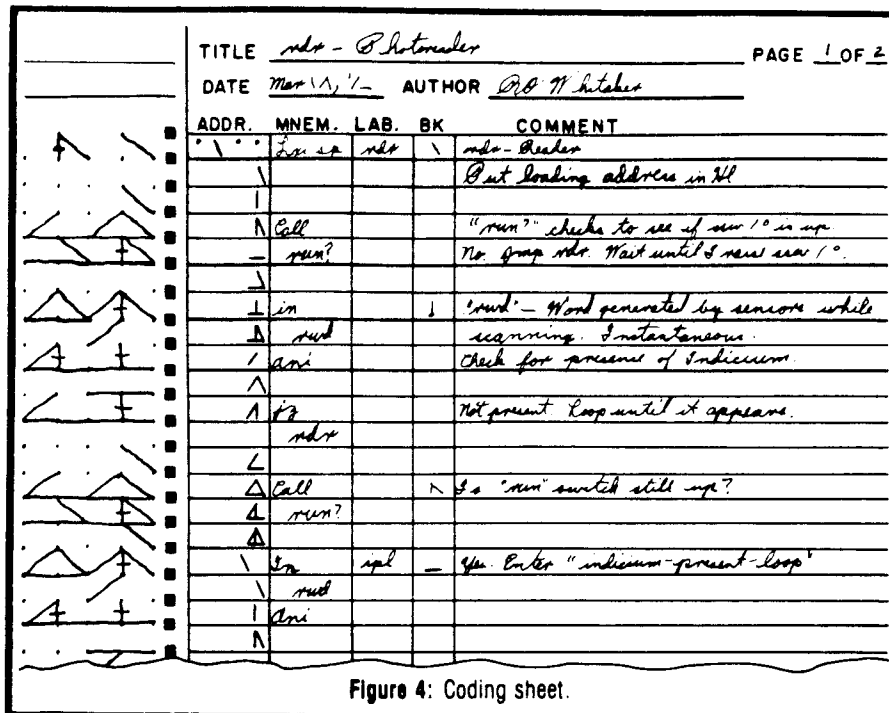
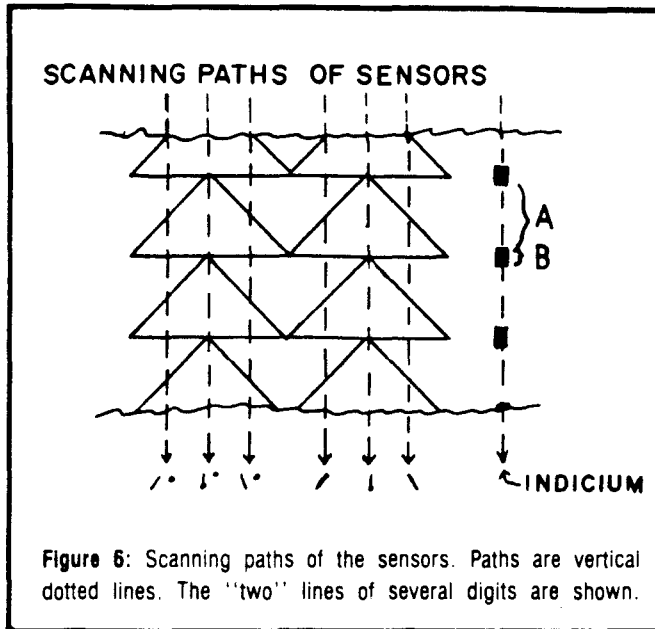

Figure 4: Coding sheet.
Figure 6: Scanning paths of the sensors. Paths are vertical dotted lines. The "two" lines of several digits are shown.
Figure 4 is a coding sheet with the code column on the left. The CCDs are formed by connecting the appropriate dots with a dull #2 pencil.
The fiber optic sensors scan along the dotted lines of Figure 6. Note that the ID (indicia) sensor senses the presence of indicia in the column at the right. The action is as follows:
2. While the ID sensor is in the "A" region of Figure 6, the other six sensors look for their respective lines. Each one
The "2-lines" were not included in Figure 6, but appear in Figure 4. Note that each 2-line bears a crossbar, which causes the 2-sensor to see the line even if the paper is off a millimeter or so in horizontal registry or if I was too sloppy in writing it.
- 7, 8, and 9. Checks to see if the SSW 80 is still up. Yes. Brings in the "Read Word" (RWD) sensed by the reader at any particular instant and dependent upon where the scanner happens to be in relation to the digit pair. Merges it into B. Repeats Steps six through nine until the ID sensor senses the presence of the second indicium. Note from Figure 6 that this loop will operate for region A. It will cause the 1, 2, 8, 10, 20, and 80 lines to be read. For each line present, it will cause its respective bit in register B to be set. Note from Figure 6 that a 1 or 8 line can hardly be mistaken for a 2-line.
- 11, 12, and 13. This is the B loop. The computer stays here as long as the ID sensor sees the second indicium—as long as the sensors are in region B of Figure 6. The 80 and 8 sensors look for the 40-line and the 4-line respectively. The other sensors do nothing. If the 80-sensor sees the 40-line,
To aid in zeroing the system, I put two horizontal lines across the top of the code column (see Figure 4). The first is so thin that the sensors do not trip on it. The second is just barely dark enough to trip the sensors. The pots were then adjusted so that their respective LEDs did not light for the first line and did light for the second. The only requirement for proper reading is that the lines of each digit be darker than the second line.